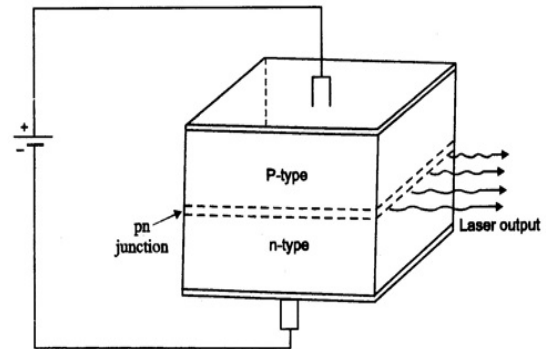

Figure 5.8: Schematic of homo-junction diode laser
- The front and rear faces are polished parallel to each other and perpendicular to the plane of the junction. The polished faces constitute an optical resonator as in Fig. 5.8.